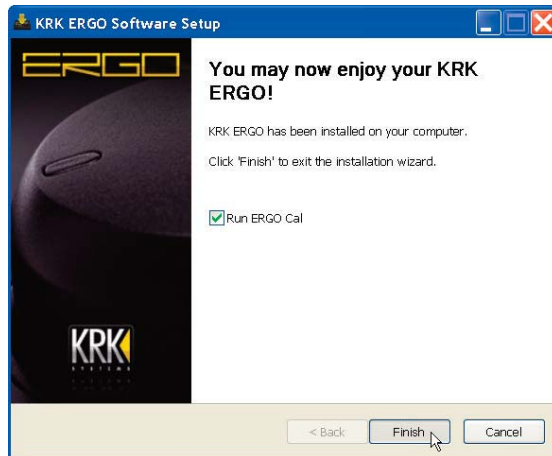

Figure 3.18
13. Click **Finish** to exit the installation wizard. (Figure 3.18)